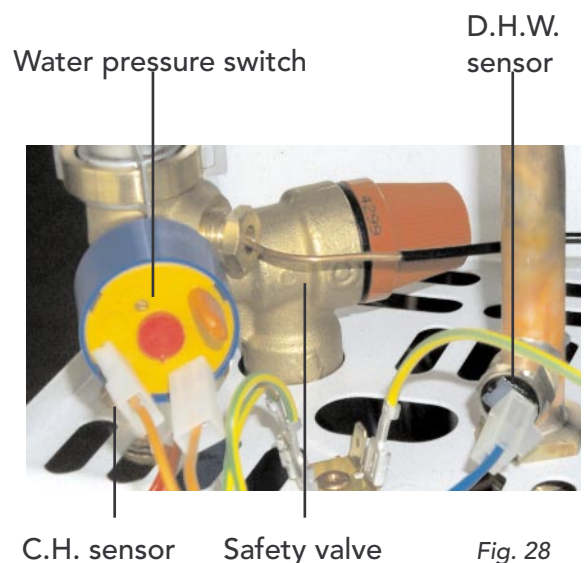

Fig. 28
7.06 D.H.W. temperature sensor or Central Heating Temperature Sensor (fig. 28)
- Identify the sensor from figure 28
7.07 Water Pressure Switch (fig. 28)
- Identify the switch from figure 28
7.08 Safety Valve (fig. 28)
- Identify valve from fig. 28